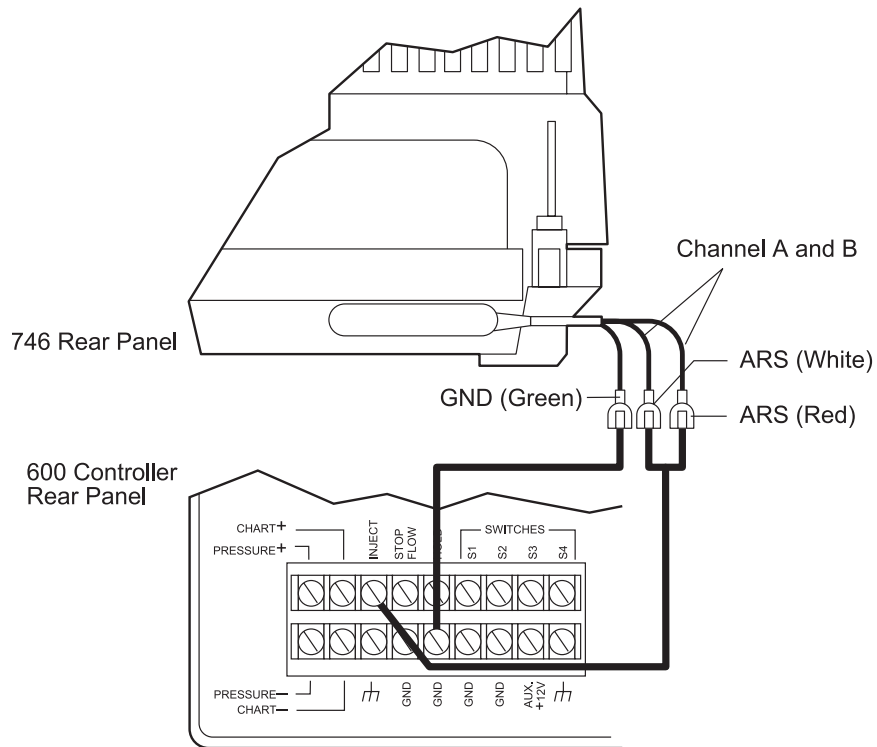

Figure 3-9 Connecting the Waters 746 to the 600 Controller Inject Terminal
- If you use the Rheodyne 7725i manual injector, the 600 controller provides the run start signal from the Inject terminal (Figure 3-9).
Figure 3-9 illustrates connecting the Waters 746 to the 600 controller Inject signal.